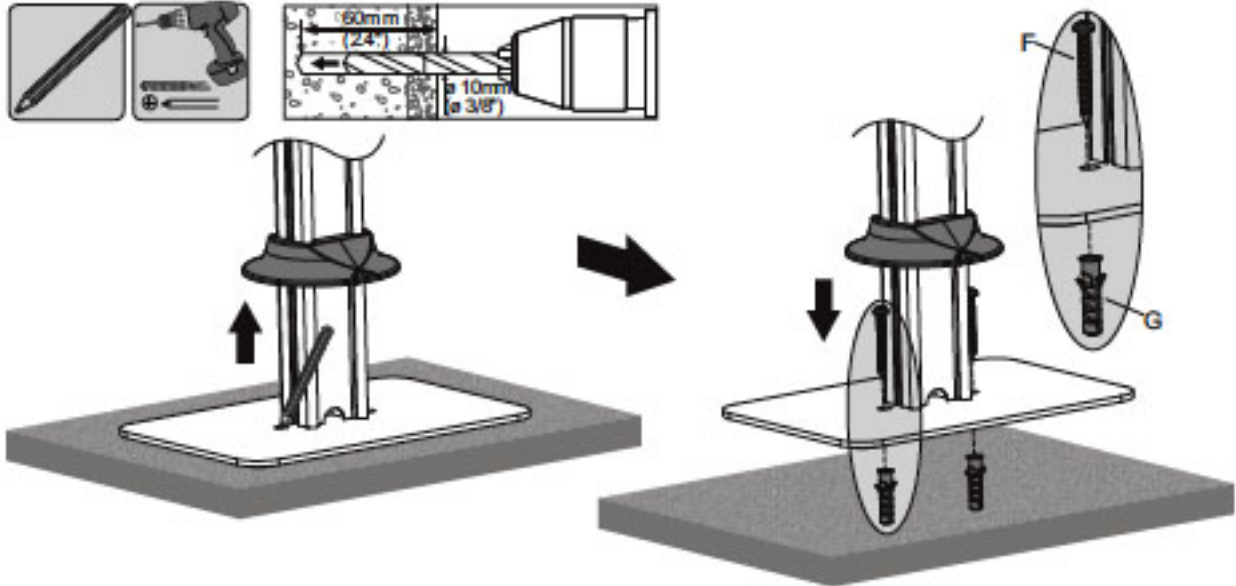

Figure 3C
1. Place the stand in the desired position. Lift up the decorative cover and mark the left and right positions of the mounting holes, see **Figure 3C**.
4. Insert a **Concrete Anchor (G)** into each drilled hole. If necessary, a hammer can be used to lightly tap each concrete anchor into place so that they are flush with the countertop.
6. For each location, insert **Screw (F)** into the concrete anchor. Tighten each screw with a Phillips screwdriver by turning it clockwise until fully tight.